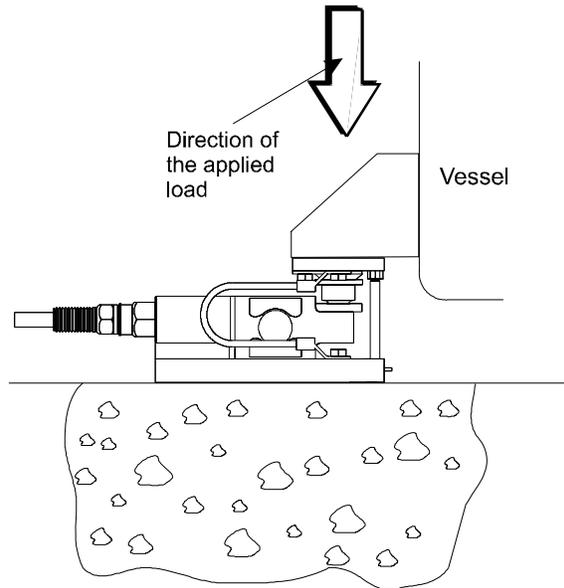

FIG. 2-32 PROPERLY INSTALLED LOAD CELL WITH NO BINDING
Step 16. Check to see that the load cell is mounted so that 100% of the load vertically passes through the load cell. (See Fig. 2-32)